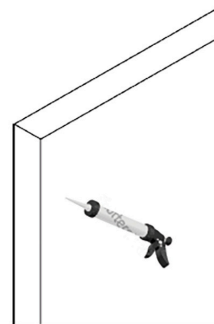

FIGURE 5
Put a small amount of silicone in each hole drilled. Place Plastic Anchors (E), if needed, in holes and gently tap with hammer. Be sure not to hit tile. (see Figure 5)